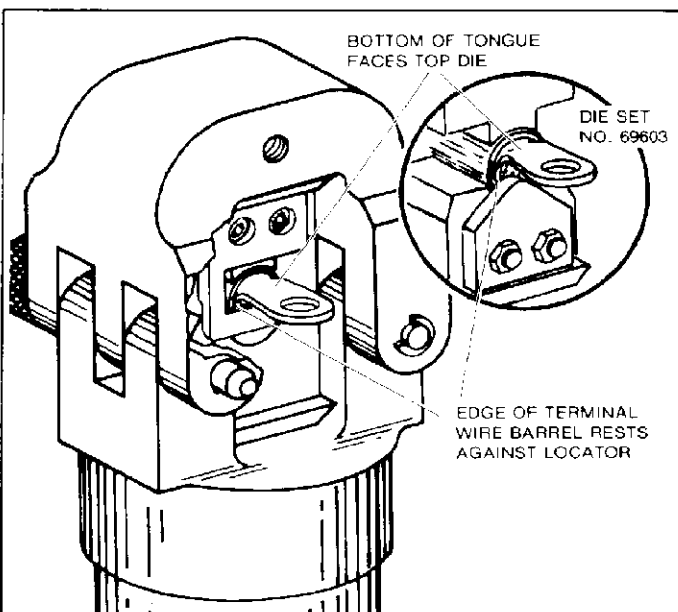

Figure 3
- Place terminal in stationary die with bottom of terminal tongue facing top die and edge of terminal wire barrel resting against locator as shown in Figure 3.
NOTE: When crimping with die set No. 69603, place terminal in "moving" die with terminal tongue on top of locator, see Figure 3, and edge of terminal wire barrel resting against locator.